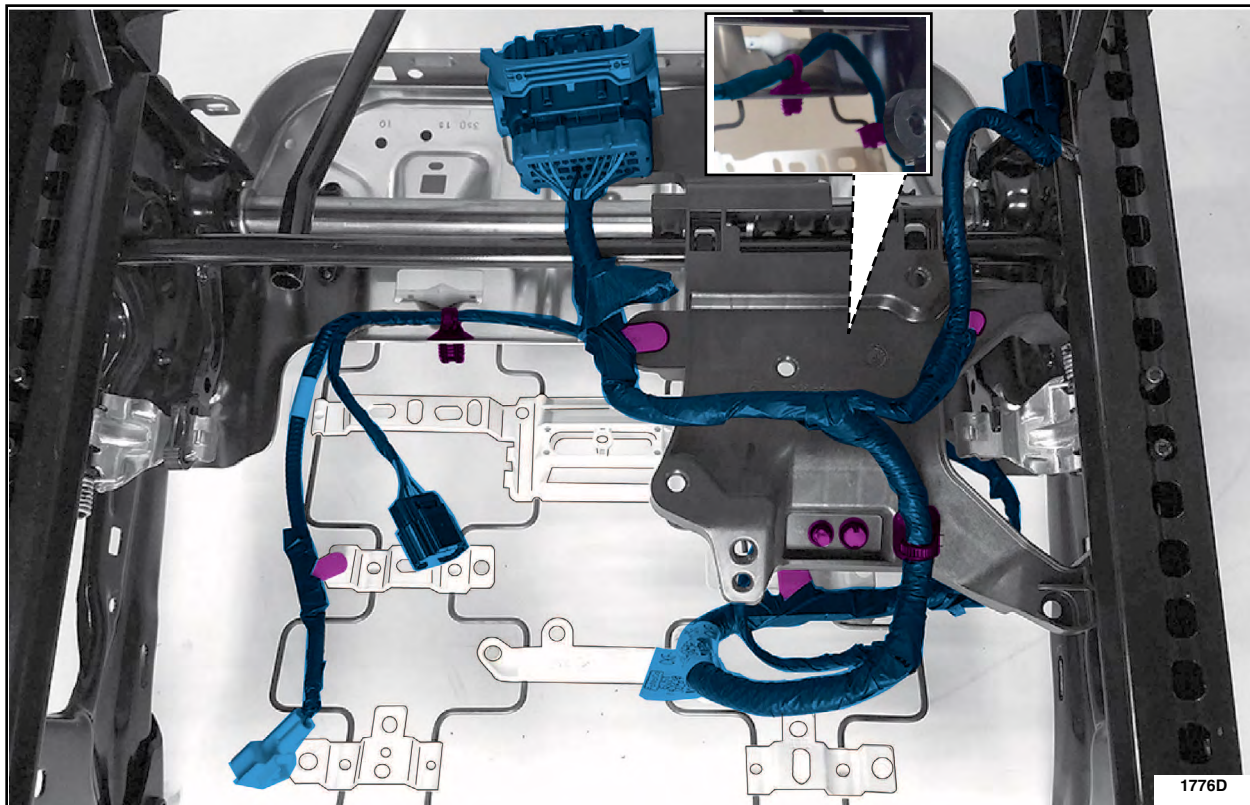

FIGURE 4
NOTE: Correct routing of the seat track wiring harness is critical. Note orientation of the wiring harness prior to removal and installation on the *new* seat track. See Figure 4.
D. Transfer the seat track wiring harness. See Figure 4.